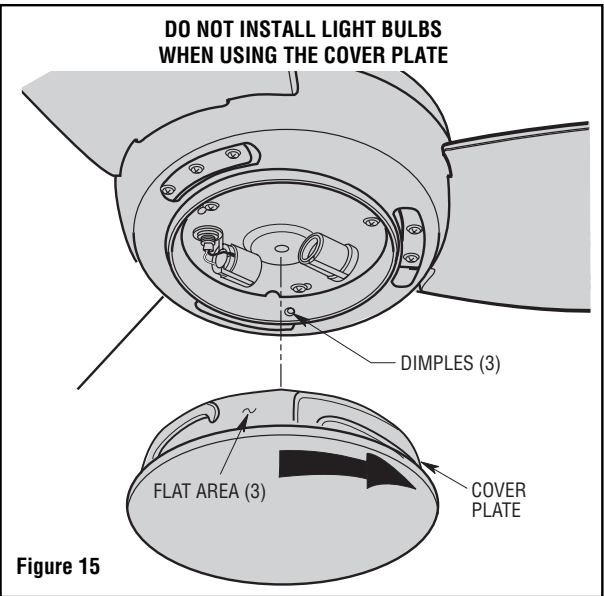

Figure 15
1. Place the cover plate onto the lower housing aligning the three flat areas on the top flange of the cover plate with the three pins on the inside of the fan motor housing assembly (Figure 15). Then turn the cover plate clockwise until it stops turning.